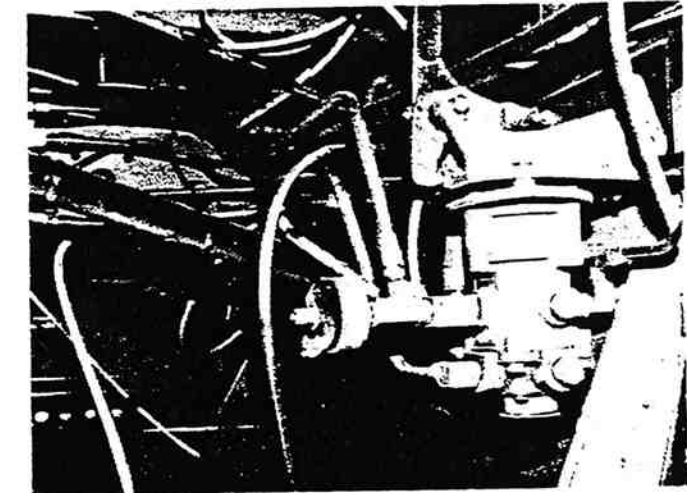

Figure 4-15. Brake Valve Installed.
1. Coat the exhaust port and body of the brake valve with a soapy solution. See figure 4-15.